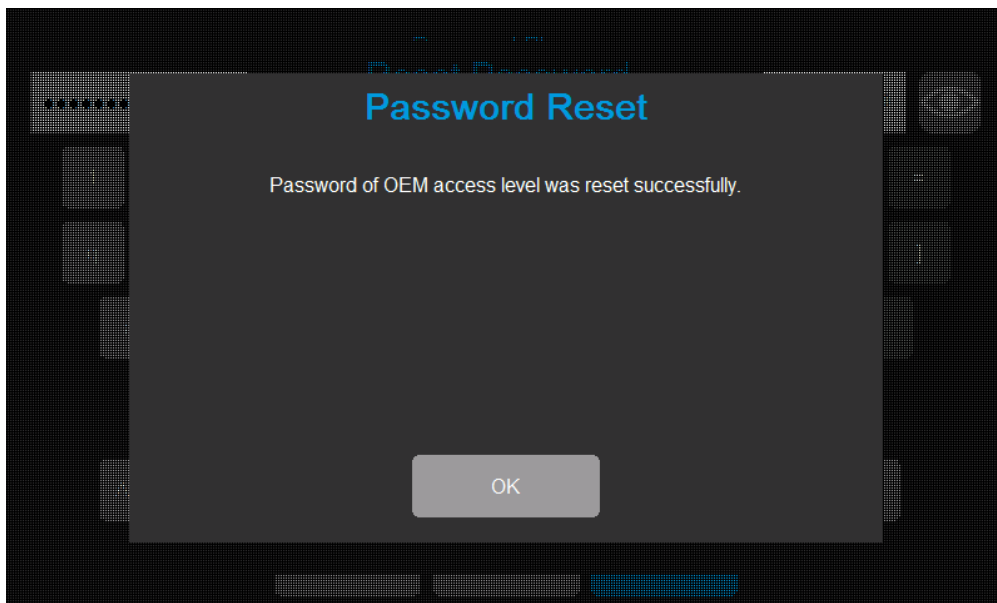

Fig. 97: Password Reset acknowledgement dialog box.
7. When the OEM Reset password has been successfully reset, the acknowledgement dialog box will appear. Refer to Fig. 97. Select OK to exit this mode.